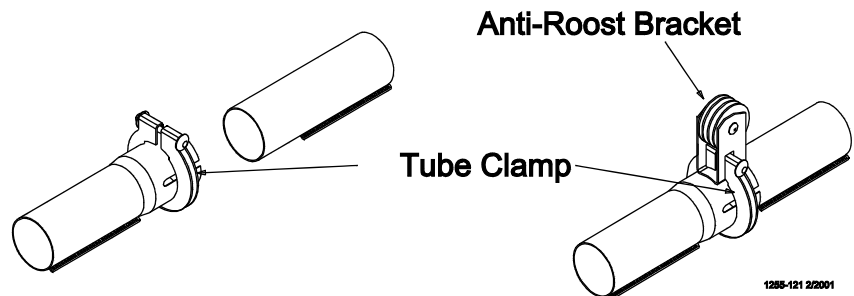

Figure 24. Tube Clamp and Tube Clamp with Anti-Roost Bracket
4. Place a Tube Clamp Assembly or Clamp/Anti-Roost Bracket at each joint. **Figure 24** shows the standard Clamp and Clamp/Anti-Roost Bracket.